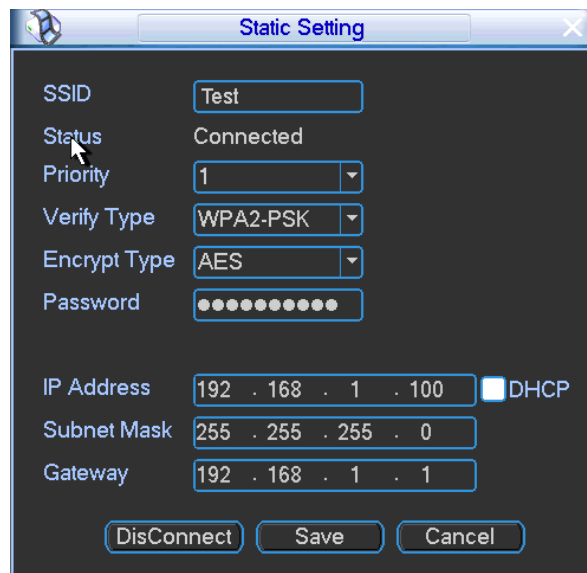

Figure 4-28
After successfully connection, you can see the following interface. You can see it is connected now. See Figure 4-28.
- On the static setting interface (Figure 4-28), only the hotspot of WEB authentication mode can supports key-index.